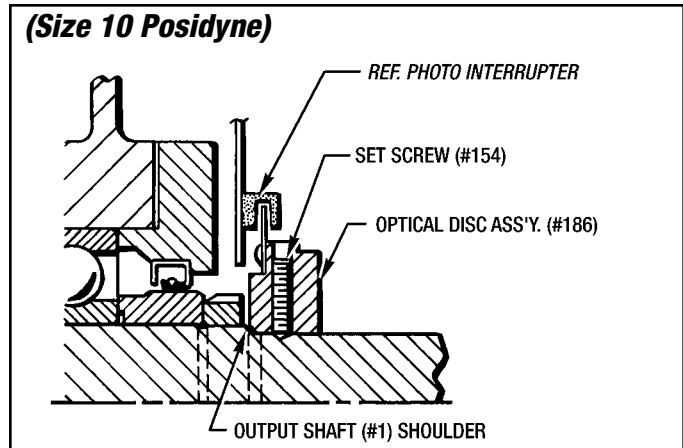
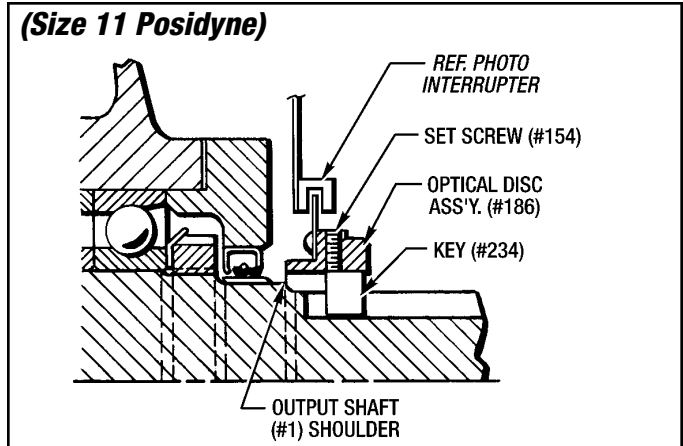

Figure 6.6 - Optical Disc and Hub Positioning (Size 10 Posidyne)
Figure 6.7 - Optical Disc and Hub Positioning (Size 11 Posidyne)
- Slide the Optical Disc Assembly (#186) onto the output shaft until it butts up against the shoulder. See Figure 6.6 for Size 10 Posidyne and Figure 6.7 for Size 11 Posidyne.